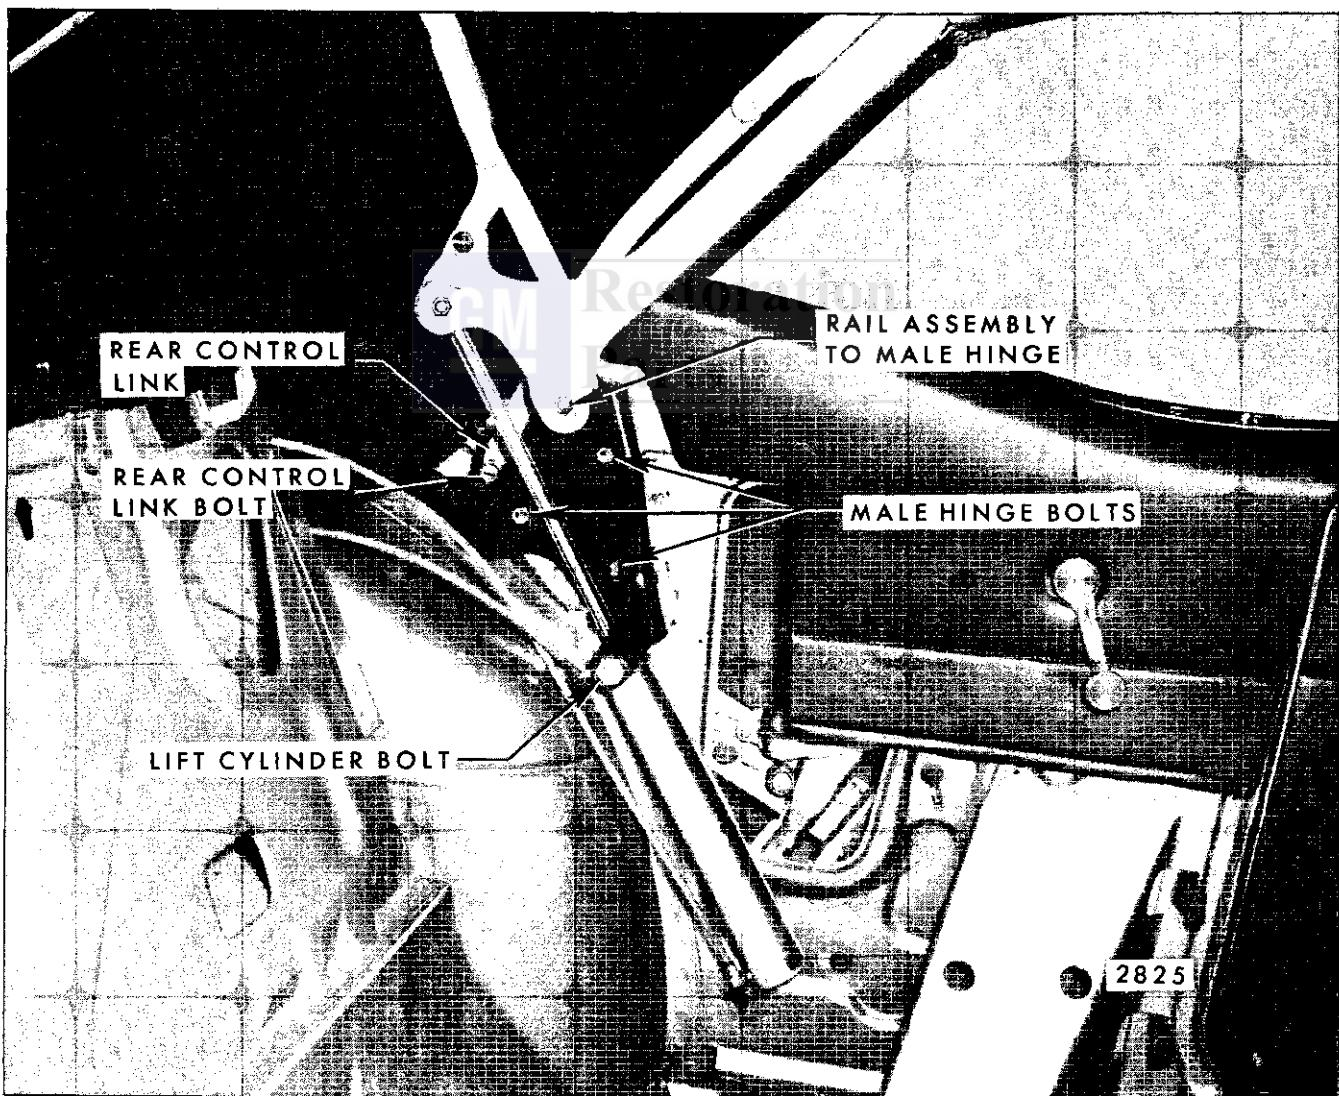

Fig. 13-65—"A" Body Hydraulic Lift Cylinder Attachment
6. Remove attaching nut, bolt, bushing and washer from upper end of cylinder rod. Figures 13-65 and 13-66.